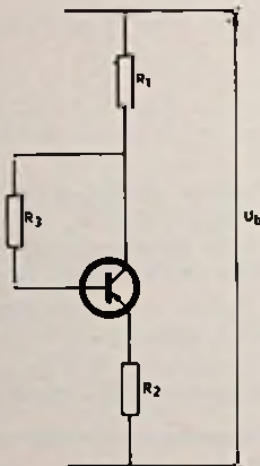

Fig. 14
③ In de schakeling van fig. 14 is $R_1 = 2 \text{ k}\Omega$, $R_2 = 500 \Omega$ en $R_3 = 40 \text{ k}\Omega$.